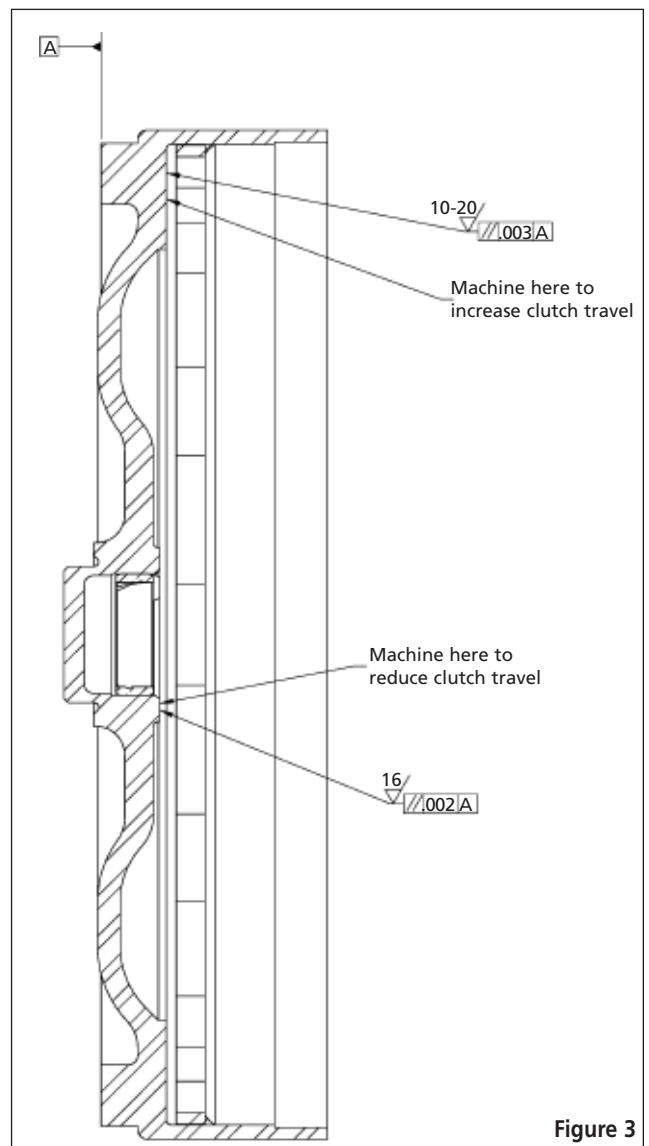

Figure 3
15. If there is too much clutch travel, machine the thrust surface of the front cover by the amount that you want to reduce the clutch travel (Figure 3). Make sure to maintain a RA 16 micro-inches surface finish and keep the thrust surface parallel to the mounting pads within .002". If you want to increase the amount of clutch travel,
the lockup surface of the front cover by the amount you want to increase the travel (Figure 3). Make sure to keep the surface finish better than RA 20 micro-inches and parallel to the mounting pads within .003". Clutch travel and overall height can also be increased by changing to a thicker thrust washer. Use **BW-WP-5** (+.030" clutch travel and overall converter height) or **BW-WP-6** (+.045" clutch travel and overall converter height).